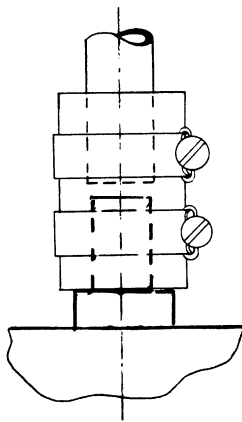

Figure 6-22. Optimum Location of Clamps to Minimize Area of Tygon Exposed to Vacuum
8. Tighten the hose-clamps at the roughing pump. Locate the clamps close to the ends of the metal tubing (Figure 6-22). This minimizes the area of Tygon surface exposed to vacuum.
1. Using the original or replacement Tygon tubing, install the foreline manifold and the ballast tank in the cabinet and tighten hose clamps (Figure 6-22).